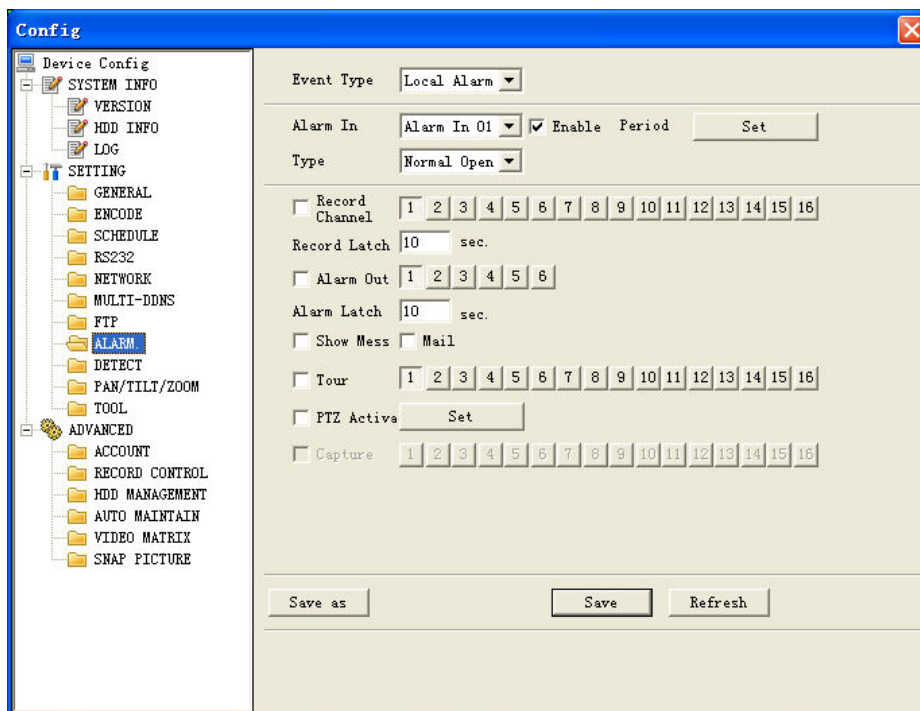

Figure 7-36
Alarm setup includes the following items. See Figure 7-36.
- Period: Click the set button, and you will see an interface as shown in Figure 7-36. Here you can set business days and non-business days.